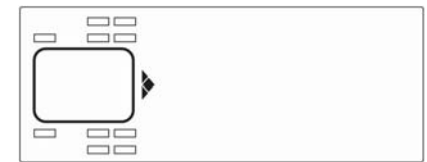

Figure 5-2
- 3) Use the “Left” and “Right” arrow buttons to cycle through the display configuration (see **Figure 5-2 and 5-3**).